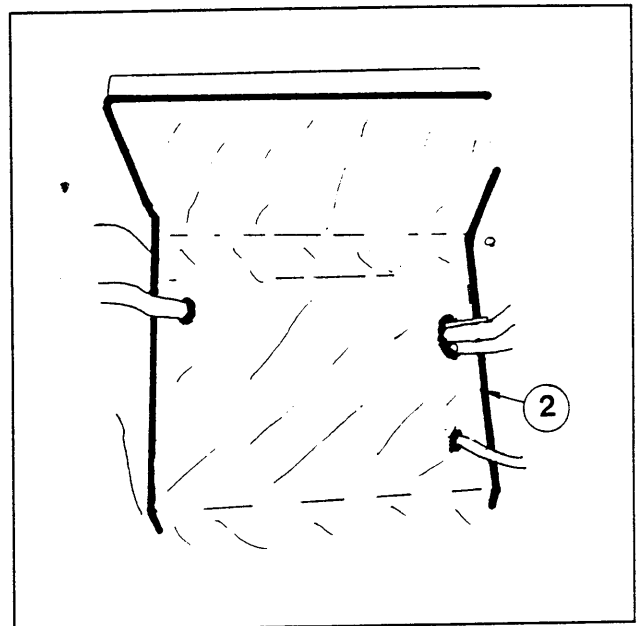

Figure 2
5. Take the 21"x42" piece of upholstery (2) and position it against the seat plate and rear panel, with the grey cloth towards you. Centre the upholstery from side to side, then lower the bottom edge until it contacts the operator foot platform. Cut all necessary openings for controls, seat bolts, and wiring. Glue the upholstery to the seat plate and rear panel. (see Figure 2)